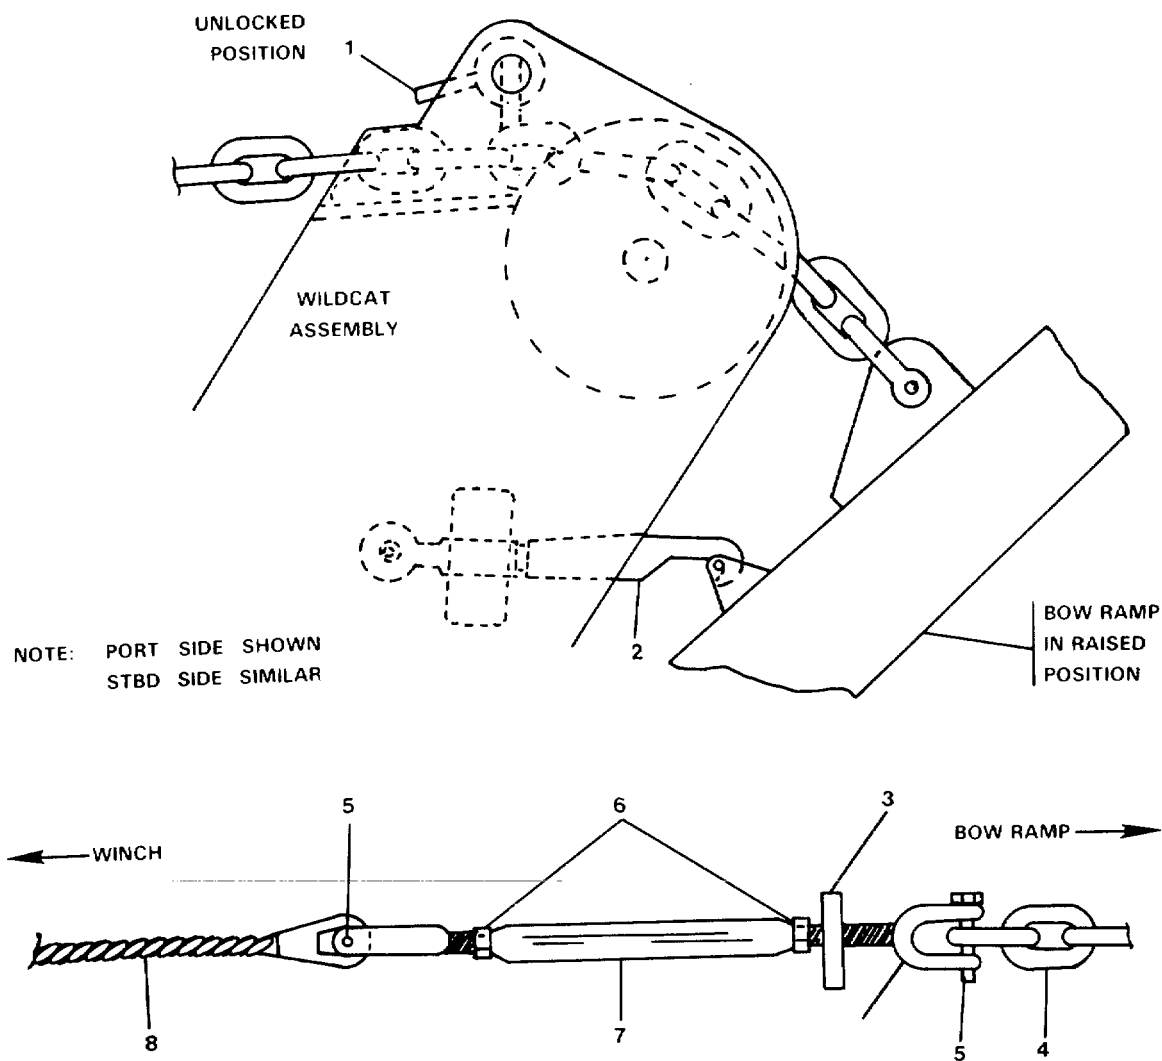

FIGURE 2-10. Turnbuckle, Chain Stopper and Locking Assemblies.
- a. Stretch cotton cord (1) tightly between wildcat (3) and wire rope pulley (4).
- b. Measure distance between cord (1) and turnbuckle (2).
- c. If measurement is more than 2 inches, loosen plate stopper ring (3, FIGURE 2-10) and the adjusting turnbuckle outward extension (6).
- d. Turn adjusting turnbuckle (7) until measurement is 2 inches.
- e. Tighten adjusting turnbuckle inward extension (6) and plate stopper ring (3).
- f. Remove cotton cord (1) when adjustment is complete.
2-34. Repair Turnbuckle Assembly. (FIGURE 2-10).
REPLACEMENT (FIGURE 2-10).